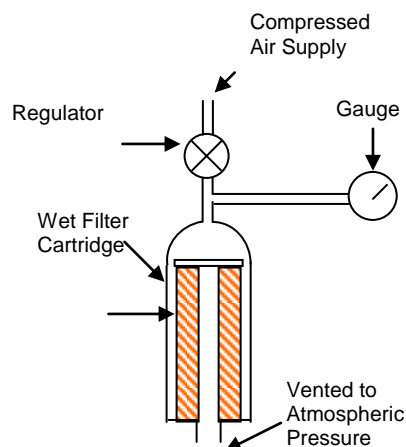

fig 1
- 4) With the wetted Cartridge positioned in the housing, connect housing **inlet** to a regulated source of clean compressed air (or other suitable test gas such as nitrogen), see fig 1.